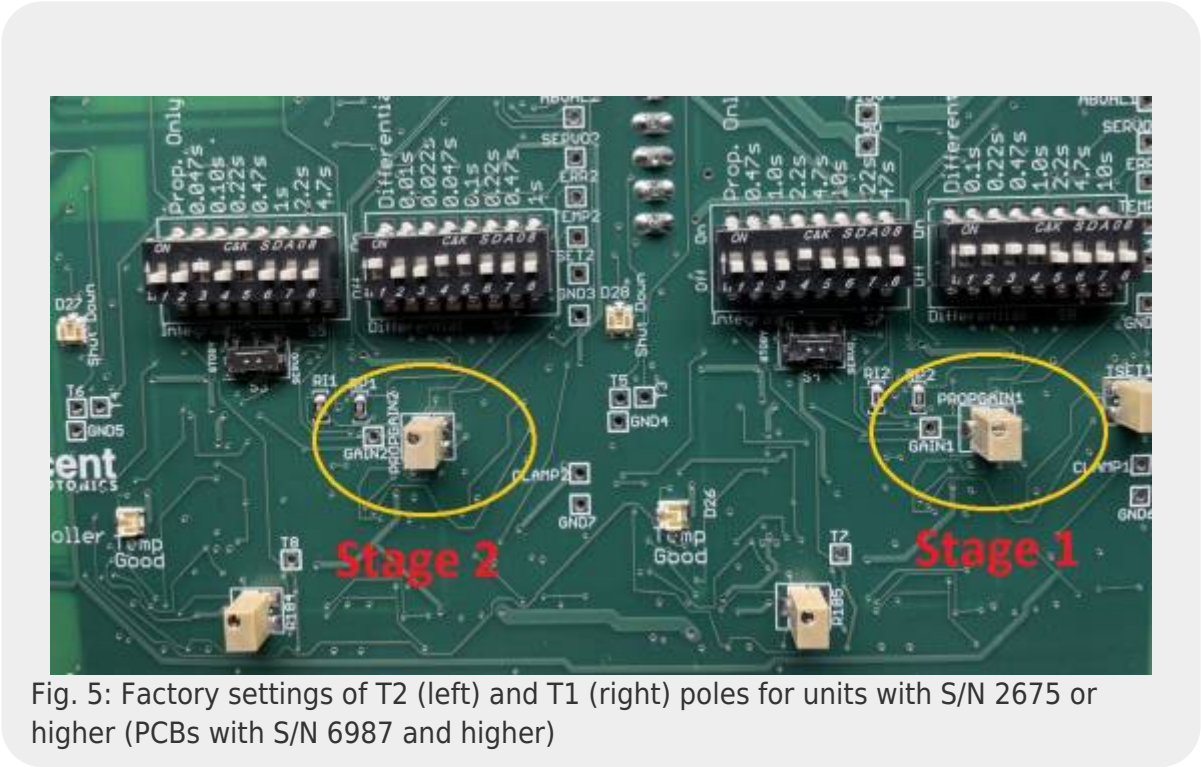

Fig. 5: Factory settings of T2 (left) and T1 (right) poles for units with S/N 2675 or higher (PCBs with S/N 6987 and higher)
1. Set the dip switches to the configuration shown in table 3 and table 4 and figure 5.